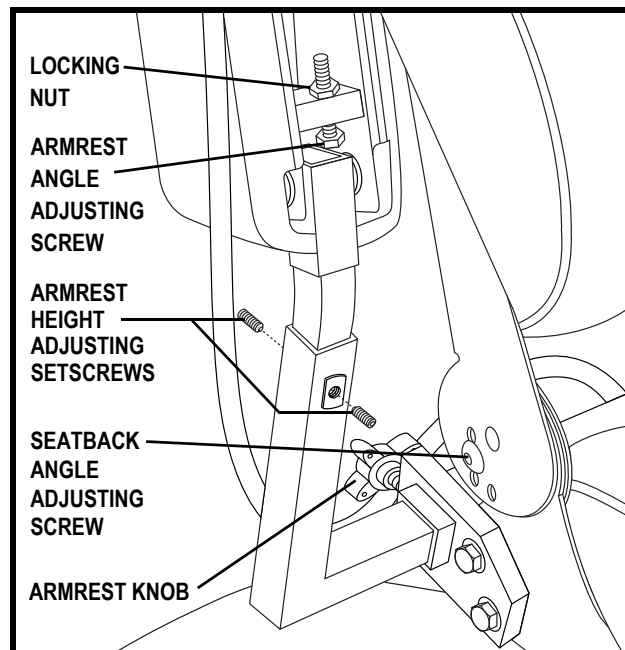

Figure 17. Seatback and Armrest Adjustments
1. Remove the seatback angle adjustment screws on both seat hinges. **See figure 17.**
1. Locate the two armrest knobs on each side of the armrest receiver bracket. **See figure 17.**
2. Loosen the locking nut. **See figure 17.**
3. Loosen the armrest angle adjustment screw. **See figure 17.**